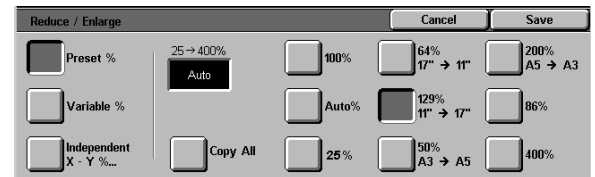

Figure 15: Preset% Reduce/Enlarge
- 2 On the Reduce/Enlarge screen, select the **Preset%** option, as illustrated in Figure 15.